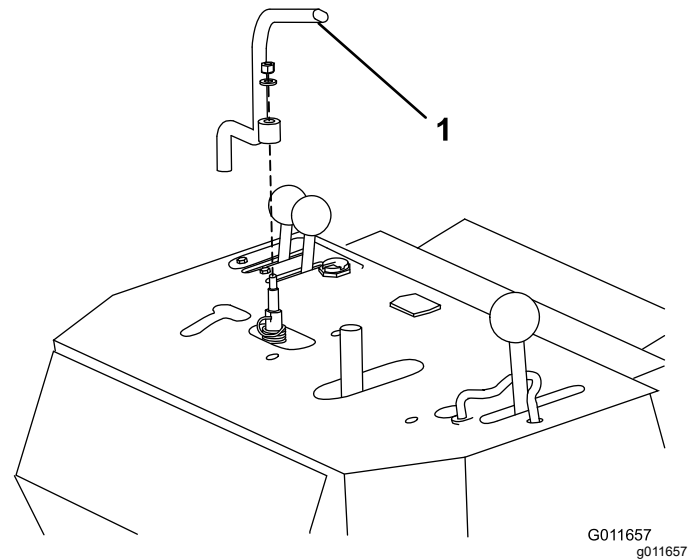

Figure 5
4. Disconnect the spring from the hydraulics lever and remove it as shown in Figure 5.